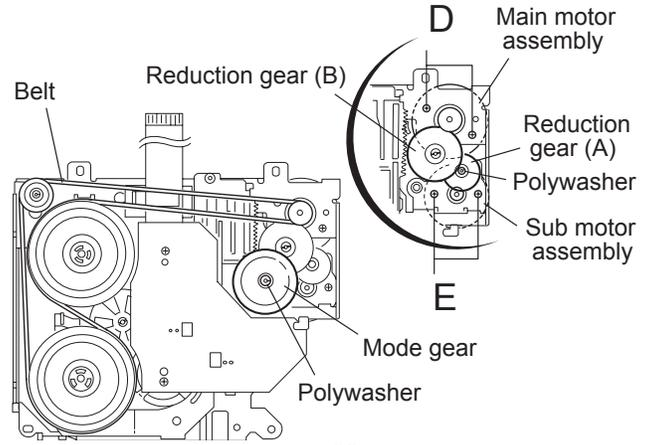

Fig.38
**(See Fig.38 to 40)**
- (1) Remove the belt at the bottom.
- (2) Remove the polywasher and pull out the mode gear.
- (3) Pull out the reduction gear (B).
- (4) Remove the polywasher and pull out the reduction gear (A).
- (5) Remove the two screws attaching the main motor assembly (A).
- (6) Remove the two screws E attaching the sub motor assembly.
- (7) Unsolder the wires on the reel board if necessary.